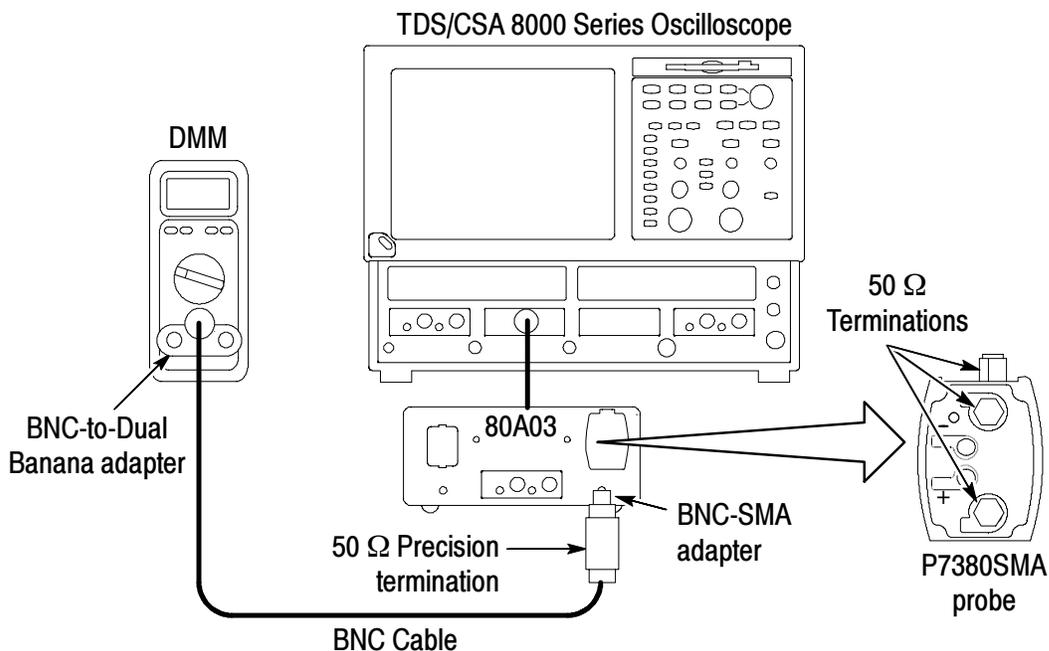

Figure 39: Setup for the output offset zero test
1. Connect the equipment as shown in Figure 39.